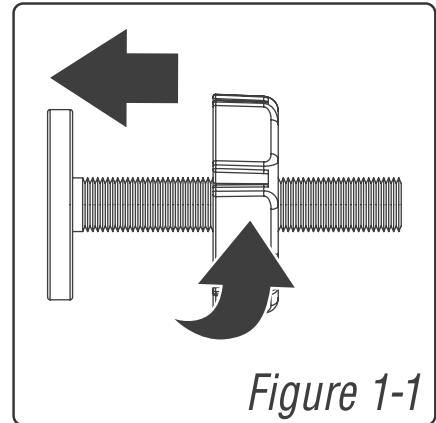

Figure 1-1
Locate the (4) threaded spindle rods (B). Rotate the adjustment wheels along the threading, eliminating the gap between the adjustment wheel and the rubber foot (Figure 1-1)